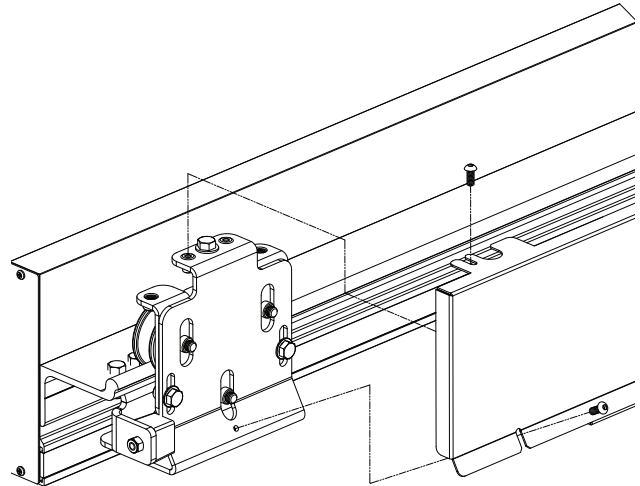

Figure 32: Remove Trolley Cover Plate
- 2 Remove trolley cover plate by removing 2 screws attaching it to trolley on both ends (Figure 32).